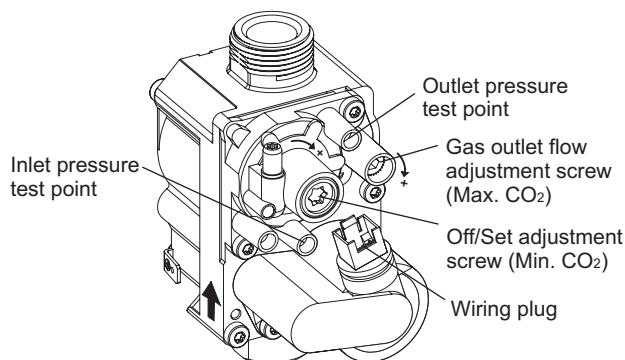
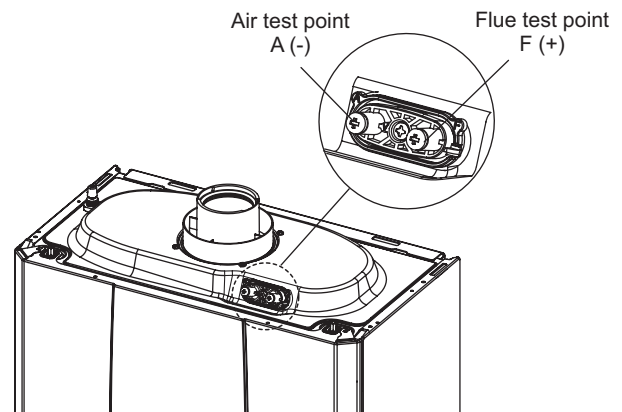

Fig. 5.2
Fig. 5.3
The air gas ratio of the boiler has been factory-set and should not require adjusting during commissioning. If adjustment is recommended or required the engineer must be competent to carry out this work. See Fig. 5.3 for analyser test point.
Refer to Section 5.6 and enter the chimney sweep mode (with no DHW demand) use the DHW down button to set the output to minimum (0%). Insert the analyser probe into the flue test point (Fig. 5.3) and check that the CO2 value is as specified in Section 2.1, otherwise adjust the screw (Fig. 5.2) To increase the CO2 value, turn the adjustment screw in a clockwise direction and vice versa to decrease.
When you finish the minimum CO2 adjustment, while maintaining the chimney sweep function active, use the DHW up button to set the output to maximum (99%). Insert the analyser probe into the flue test point (Fig. 5.3) and check that the CO2 value is as specified in Section 2.1, otherwise adjust the screw (Fig. 5.2). To increase the CO2 value, turn the adjustment screw in a clockwise direction and vice versa to decrease it.
Connect the flue gas analyser to the flue gas sampling point as shown in Fig. 5.3.
**Notes:** 1. Prior to servicing, it is recommended that a flue gas analyser is used to measure the performance of the boiler (refer to Fig. 5.3 for the position of the flue sampling point). Refer to Section 5.6 Checking combustion. If the CO/CO2 ratio measured is greater than 0.004 **or** when other checks or comments from the customer have indicated that there may be problems, check the following: